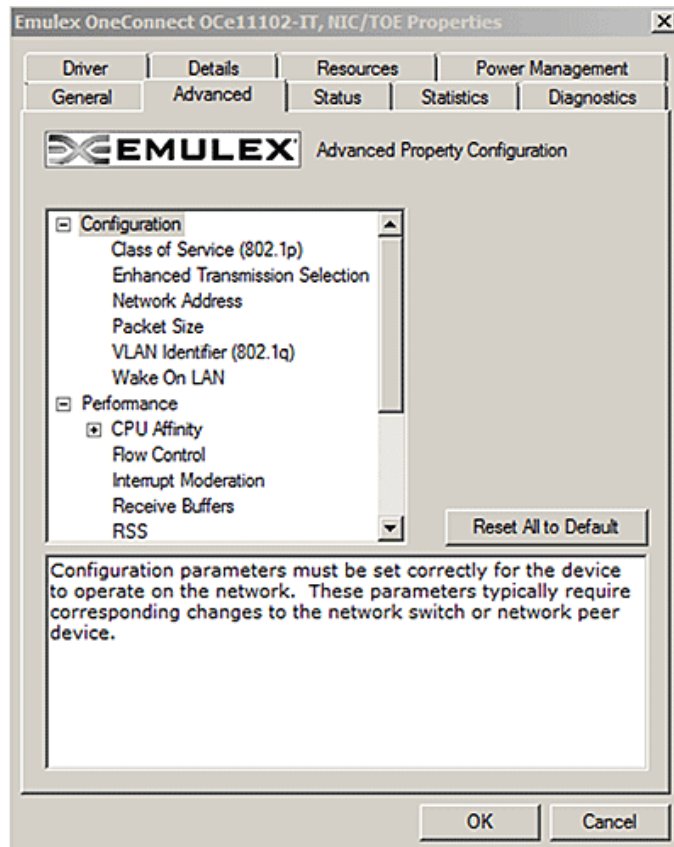

Figure 3-2 NIC/TOE Advanced Properties in Windows Server 2008
3. Click **Properties**, then click the **Advanced** tab (Figure 3-2 on page 53).